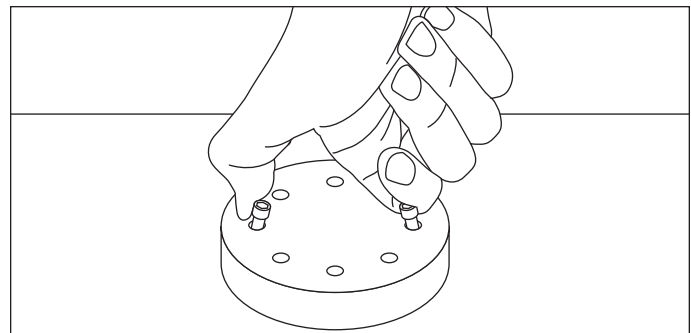

Figure 5.3A: Piston removal
3. Loosen the piston head bolts. Remove the piston as shown in figure 5.3A by pinching two loose bolts together.
3. Remove the piston head by loosening and removing the socket head bolts holding the piston head to the piston platform (see figure 5.3A).
3. Remove the piston cap by loosening and removing the socket head bolts holding the piston cap to the piston (see figure 5.3A).